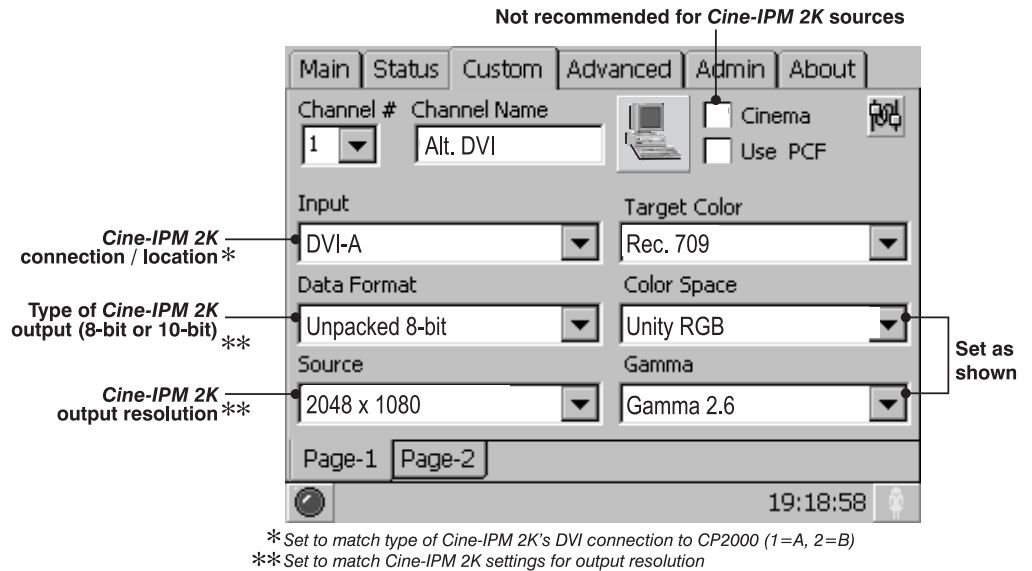

Figure 2.20. Configuring the TPC for Cine-IPM 2K Sources (EXAMPLE)
4. With the projector and *Cine-IPM 2K* both powered up normally, go to the *Custom* menu of the TPC and set the following options (see Figure 2.20):